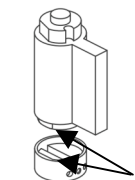

Figure 3
1. Place the key cap over the end of the key cylinder. Align the flat of the key cap to the flat of the cylinder, as shown in Figure 3.